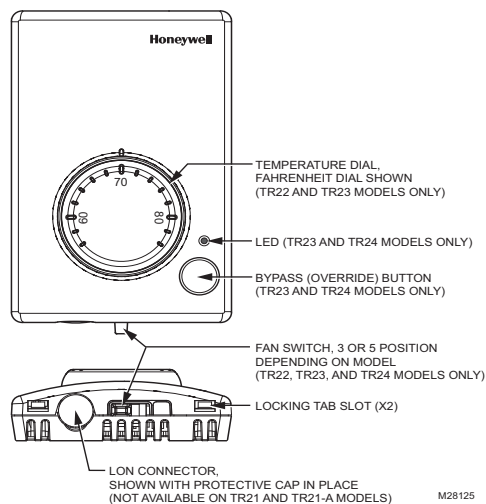

Fig. 2. Wall Module Features (TR23-F Shown).
1. Insert a thin, flat blade screwdriver into each of the two slots at the bottom of the module to release the two locking tabs. See Fig. 2 on page 2.